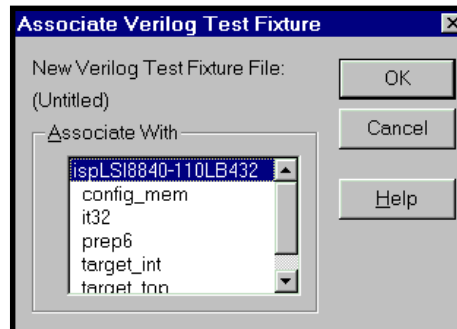

Figure 1-16. Associate Verilog Test Fixture Dialog Box
2. Select Verilog Test Fixture in the New field and then click **OK**. The Associate Verilog Test Fixture dialog box (Figure 1-16) appears, prompting you to associate the new Verilog test fixture file with the selected device or one of your design modules.